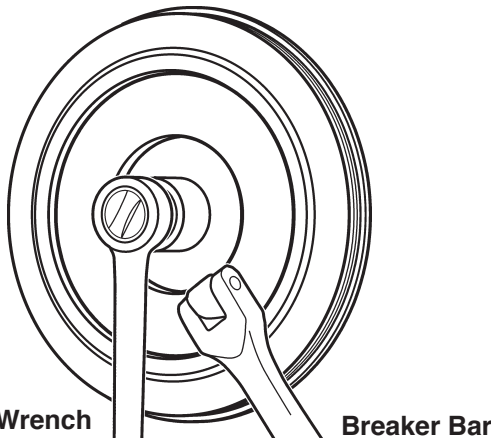

Figure 2
2. Use a 1/2 in. breaker bar to support the holding ring against the crankshaft damper. Place the correct socket with ratchet on the crankshaft bolt. Hold the crankshaft damper and turn the crankshaft bolt counter clockwise to loosen the bolt. See Figure 2.